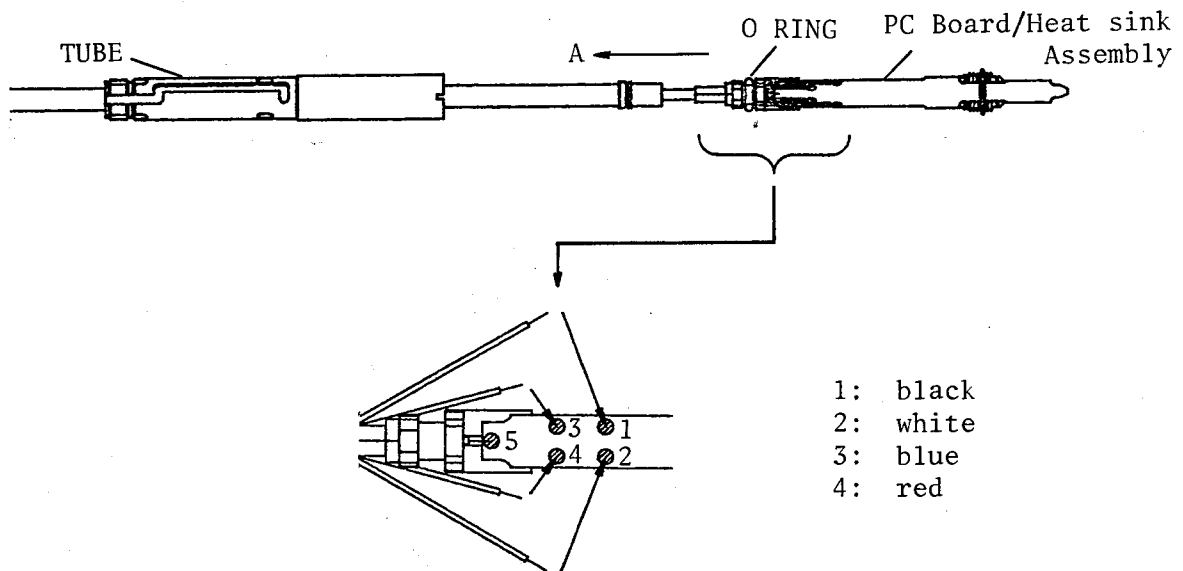

Figure 6-8. O Ring and Lead Removal
6. Slide the O RING in direction A as shown in Figure 6-8.
7. Remove leads No. 1 through 5 as shown in Figure 6-8, from the PC Board/Heatsink assembly.